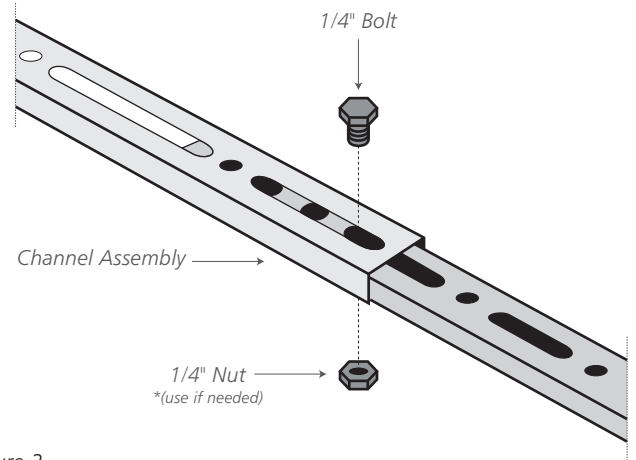

Figure 2
4. Slide two channel pieces together (one inside the other) and open them up to set tight against the walls of the cabinet. Place a 1/4" bolt at each end at the farthest point possible where the bolt goes through the top half and into the threaded lower channel. For the longest extensions, you may want to use one of the bolts with a nut through both slots in the pieces to leave room for the leveling bolt. (See Figure 2)